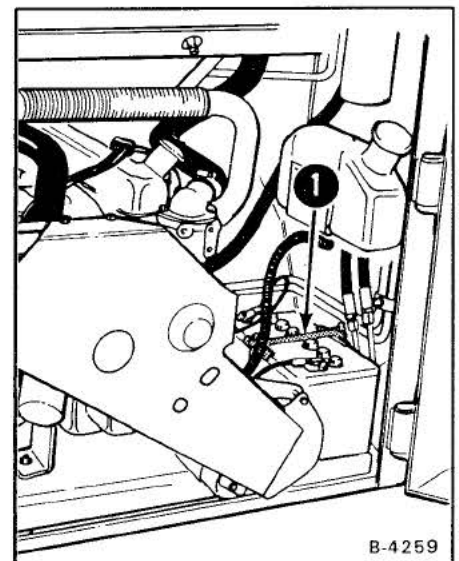

Fig. 61 Battery Holddown Clamp
2. Remove the battery holddown clamp (Fig. 61, Item 1). Remove the battery from the engine compartment.